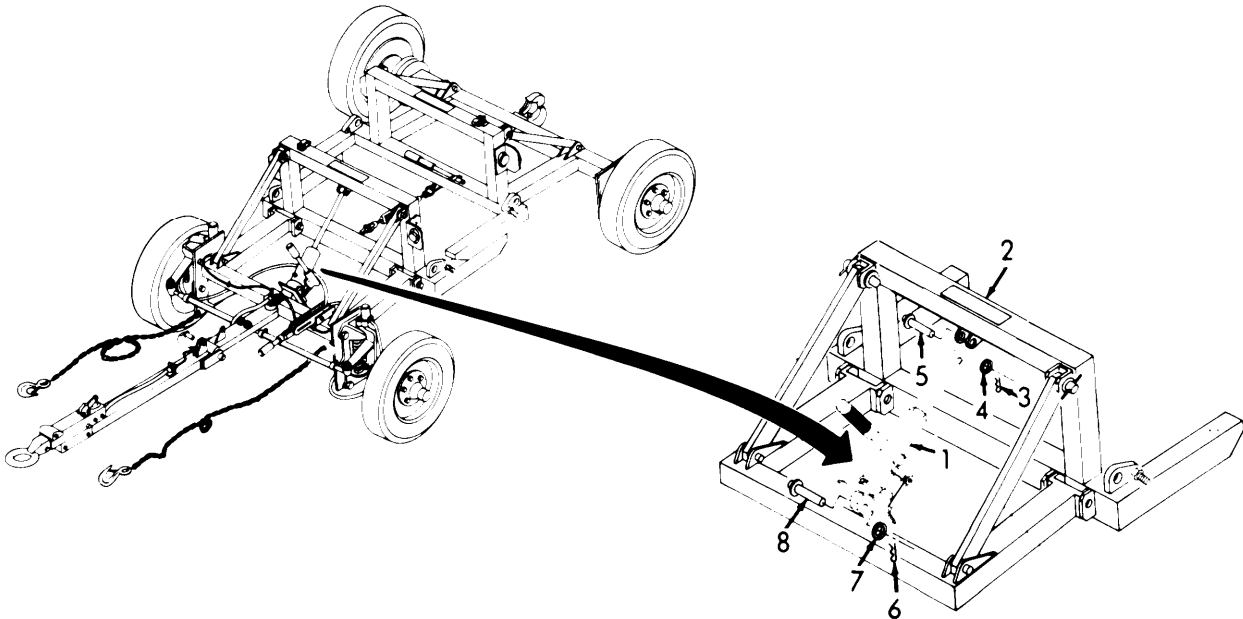

Figure 3-15. Hydraulic Jack, Removal.
- (1) Remove cotter pin (3, Figure 3-15) and washer (4) from one side of pin (5).
- (2) Remove pin (5) and move jack (1) to erect position.
- (3) Remove cotter pin (6) and washer (7) from one side of pin (8).
- (4) Remove pin (8) and jack (1) from frame (2).